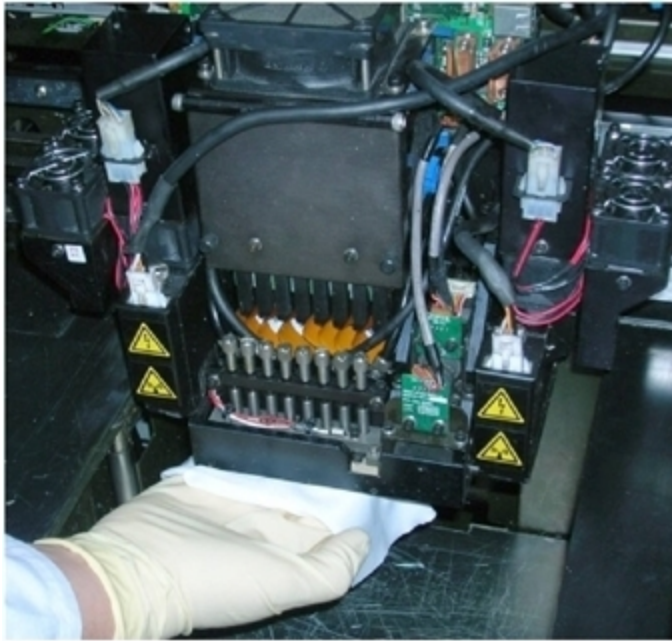

Figure 6-28 Cleaning the heads
9. Clean the orifice plates, with a back-and-forth motion (see Figure 6-28). Use the mirror to make sure that you have removed all of the residue material.